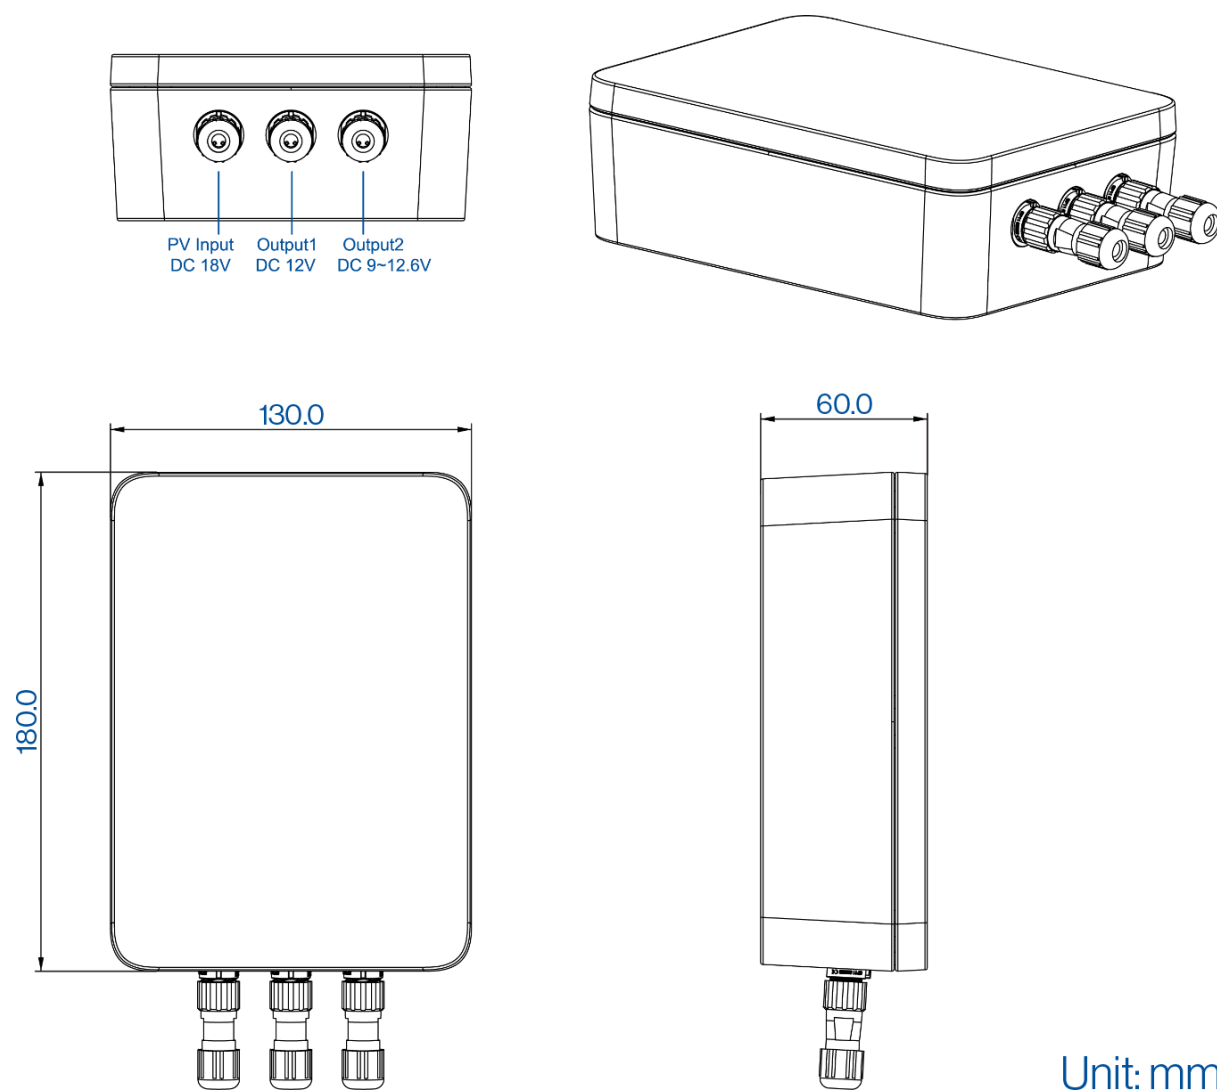

Figure 2: RAK9154 battery system
As shown in **Figure 2**, the RAK9154 battery system comprises two sets of three 2600 mAh battery units connected in series. The system also incorporates one (1) BMS board integrated with an 18 V input solar charger.